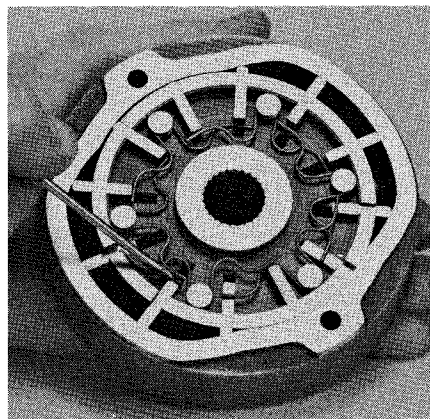

Fig. 25—Be sure all vane springs are engaged behind the rotor vanes. Springs can be pried into place with screwdriver as shown.
If the motor ring, rotor or vanes are worn, scored or damaged beyond further use, or if any of the vane springs are broken, renew the unit as a complete assembly (20). If unit was disassembled and is usable, reassemble as follows: Place ring on flat surface and place rotor inside ring. Insert six vanes in rotor slots which are in line with large inside diameter of ring. Make sure rounded edges of vane are facing outward. Turn rotor 1/4-turn and insert remaining vanes. Hook the springs behind the vanes with a screwdriver as shown in Fig. 25, then turn the assembly over and hook springs behind the vanes on opposite side of rotor.